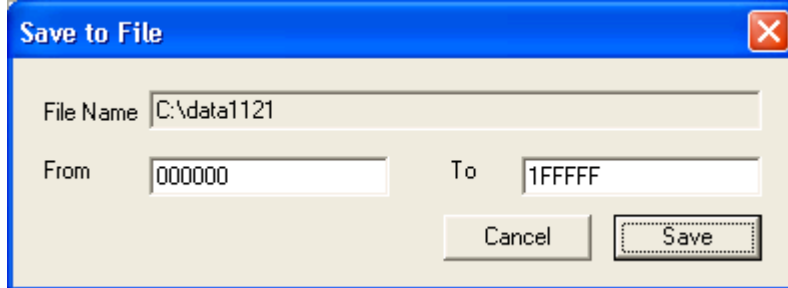

Figure 3
7. **Save to File.** To save data to a file, click  on the toolbar, or select **File** from menu bar and select **Save to File**. eeTerminal provides an interface to select a file name. After successfully select a file name, a window, as Figure 3, will pop up. The default is to save the whole flash memory to a file. To save only part of the flash memory to a file, modify the starting address in **From** box and ending address in the **To** box. Click **Save** to save the file. Click **Cancel** to exit without saving a file.